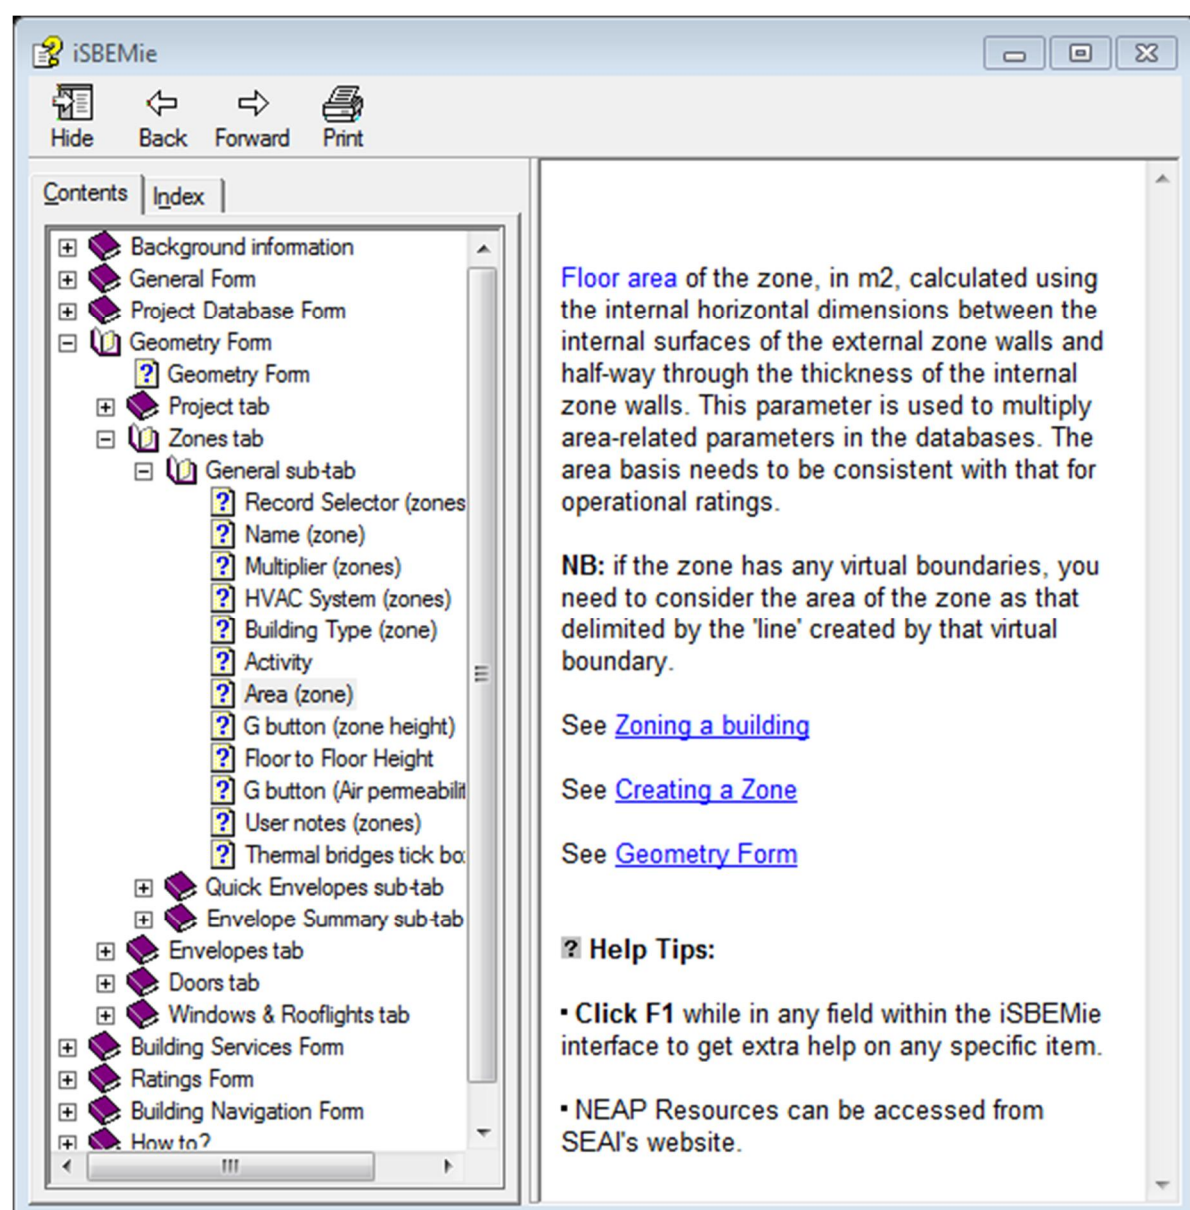

Figure 14: Help Entries window for area of a zone
2. By clicking into the field of interest and pressing the **F1** key on your keyboard. This opens the specific Help entry relating to that particular field in the “Help Entries” window (see Figure 14). From there, you can click either “Contents”, “Index”, or “Find” to open the “Help Topics” dialogue box.
Help Entries window (Figure 14)